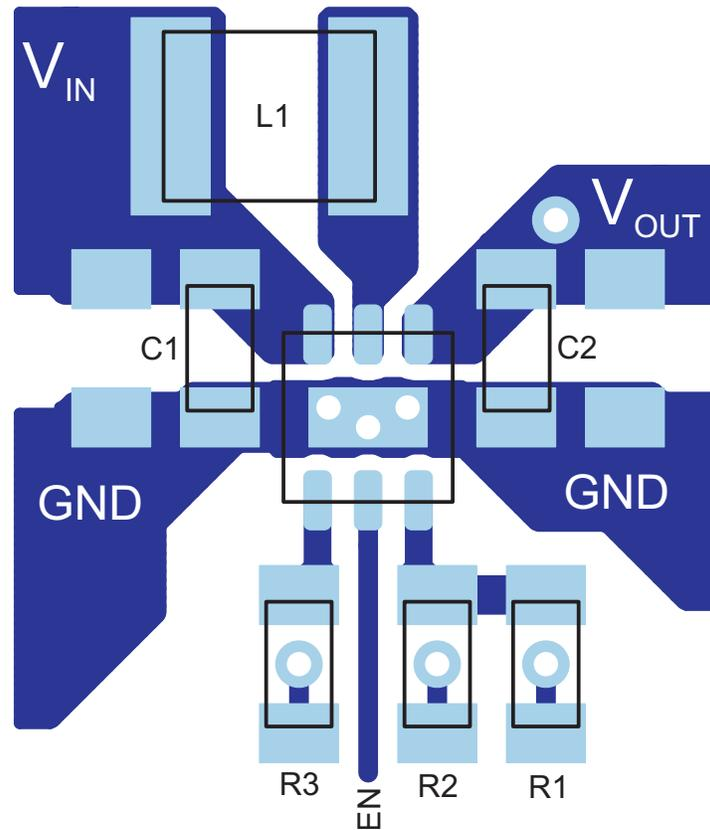

图 25. PCB Layout Suggestion
- The feedback divider should be placed as close as possible to the control ground connection. To lay out the control ground, short traces are recommended as well, separated from the power ground traces. This avoids ground shift problems, which can occur due to superimposition of power ground current and control ground current. See Figure 25 for the recommended layout.